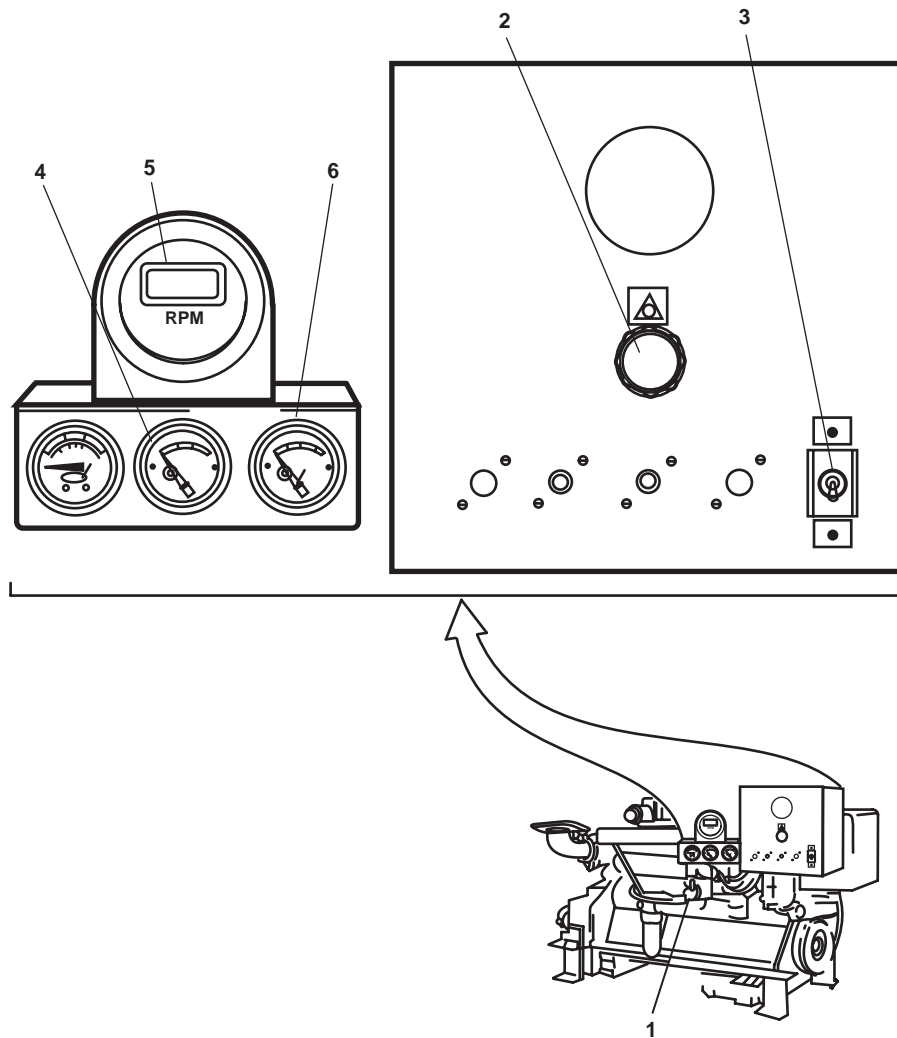

Figure 6. Pump Drive Engine Controls
- b. Move the governor control lever (figure 6, item 1) to the half engine speed position (approximately straight up).
- e. Turn the EMERGENCY/STOP pushbutton (figure 6, item 2) clockwise to release the pushbutton to the OUT position.
- f. Push the START-STOP toggle switch (figure 6, item 3) to START in order to crank the engine. As soon as the engine starts, release the toggle switch (switch is spring-loaded and will return to run position).
- g. Allow the engine to idle 3 to 5 minutes, or until oil the pressure gauge (figure 6, item 4) reads 24 PSI (1.7 bar).
- h. Operate the engine at low load until all systems reach operating temperatures. Check all gauges (figure 6, items 4, 5, and 6) during the warm-up period.
- c. Move the governor control lever (figure 6, item 1) to the high idle (full load) position.
- d. Check the engine gauges (figure 6, items 4, 5, and 6) for readings in green range.
- a. Move the governor control lever (figure 6, item 1) to the half engine speed (slow idle).
- d. Move the governor control lever (figure 6, item 1) to the OFF position.
- e. Push the START-STOP toggle switch (figure 6, item 3) down to the OFF position.
- f. Push in the EMERGENCY/STOP pushbutton (figure 6, item 2).